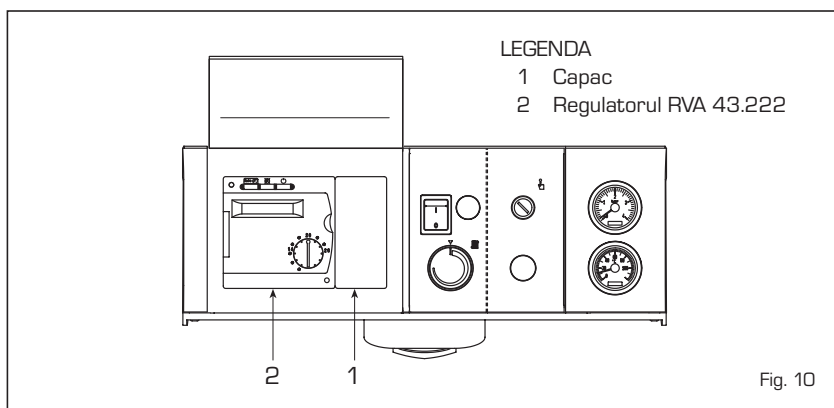

Fig. 10
2.8 MONTAREA REGULATORULUI CLIMATIC RVA 43.222 [fig. 10]